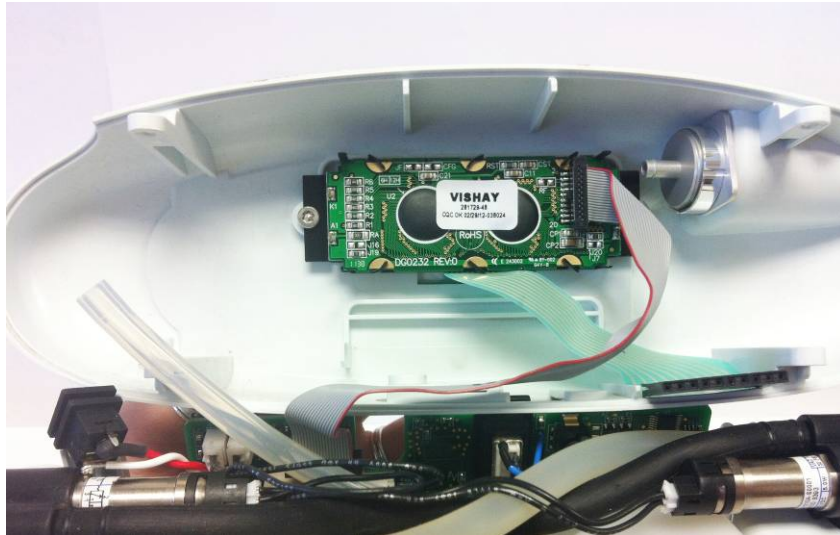

Figure 10: Orientation of LCD cable
4. Reconnect the power cable to the LCD module (Figure 10). *Note the location of the red wire.*